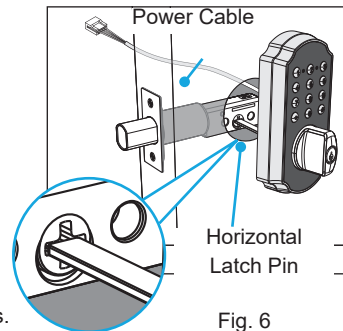

Fig. 6
- Gently feed the power cable through diameter hole carefully over the latch. (Fig. 6)
- Adjust the latch pin to HORIZONTAL position, then insert it into the center hole of the latch (Fig. 6).
- Gently feed the power cable through diameter hole carefully over the latch (Fig. 6).